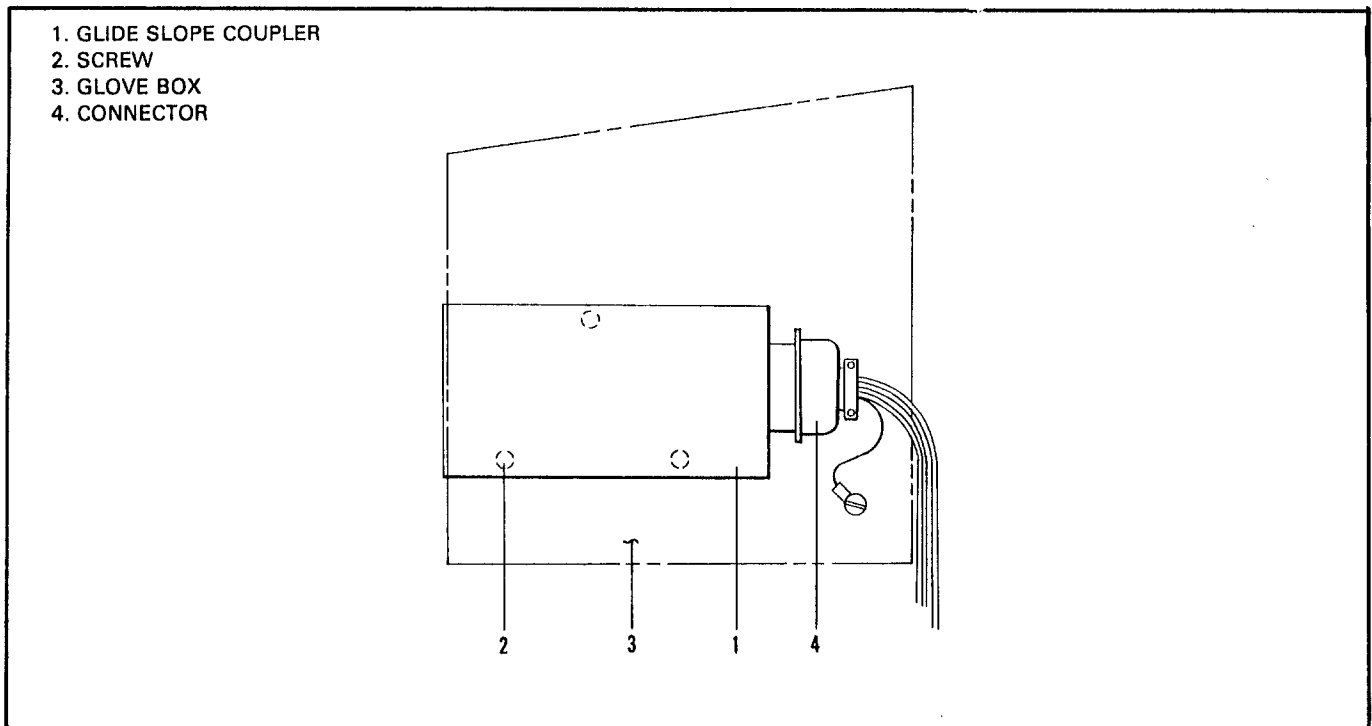

Figure 9-4. Glide Slope Coupler Installation, PA-32-260, S/N 32-7500001 to 7700023
**9-7. INSTALLATION OF GLIDE SLOPE COUPLER.** (PA-32-260, S/N 32-7500001 to 7700023 and PA-32-300, S/N 32-7540001 to 7840045) (Refer to Figure 9-4.)